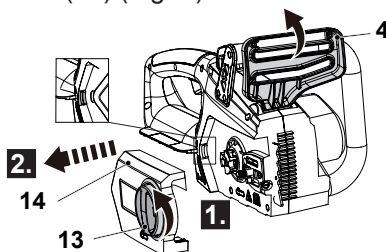

Fig. 1
2. Unscrew the locking wheel (13) anticlockwise and then remove it together with the chain saw cove (14) (Fig. 1).